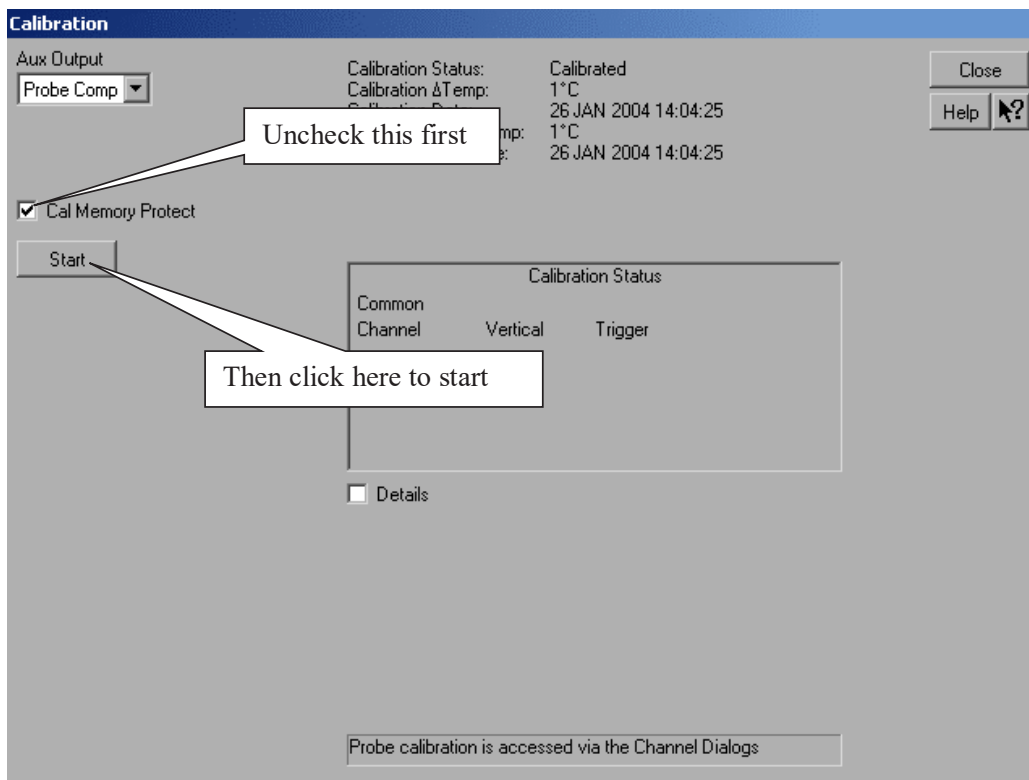

Figure 3 Oscilloscope Calibration Menu.
- 4 Referring to Figure 3 below, perform the following steps to start the calibration: